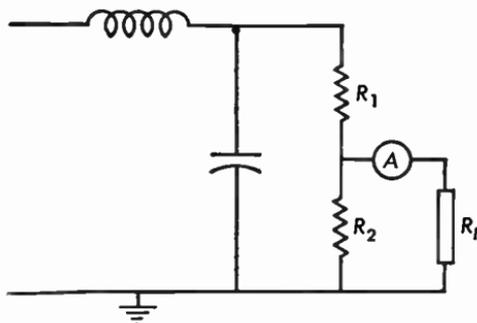

Fig. 9.13 Filter with two-section bleeder and load resistance.
9.13 The output voltage of the power supply of Figure 9.13, $E_{d-c} = 200$ volts. The two sections of the bleeder are: $R_1 = 3000$ ohms and $R_2 = 2000$ ohms. The reading of the ammeter is 50 milliamperes. What is the equivalent resistance of the load R_L ?